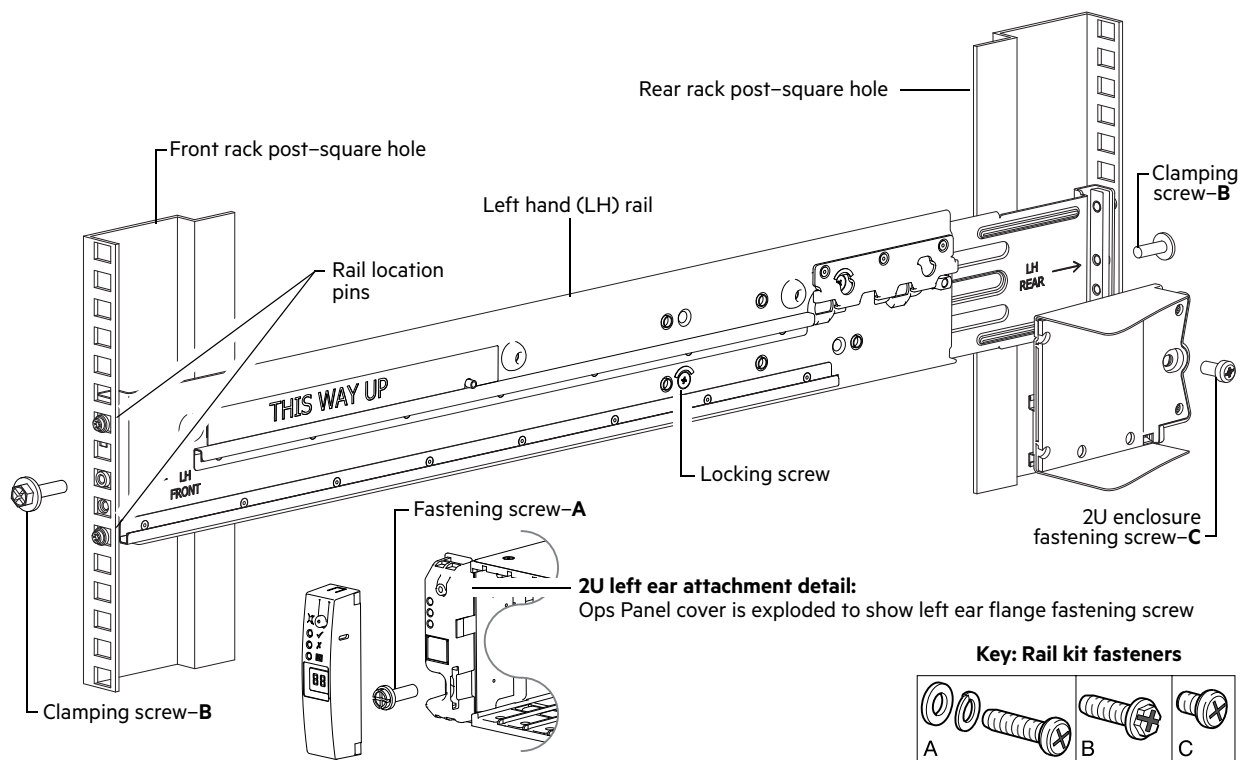

Figure 49 Securing brackets to the rail (left hand rail shown for 2U)
2. Use the procedure below to attach the rail kit brackets to the rack post as shown in Figure 49.